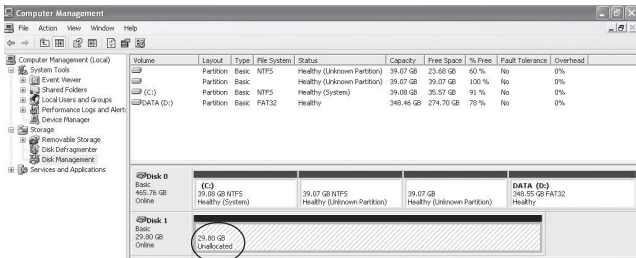

Figure 6
3. Click **Disk Management**. You will see your hard disk drive shown as **Unallocated**. For *Windows Server 2008*, you need to double click **Storage** first to see **Disk Management**. Disk number may vary, see **Figure 6**.